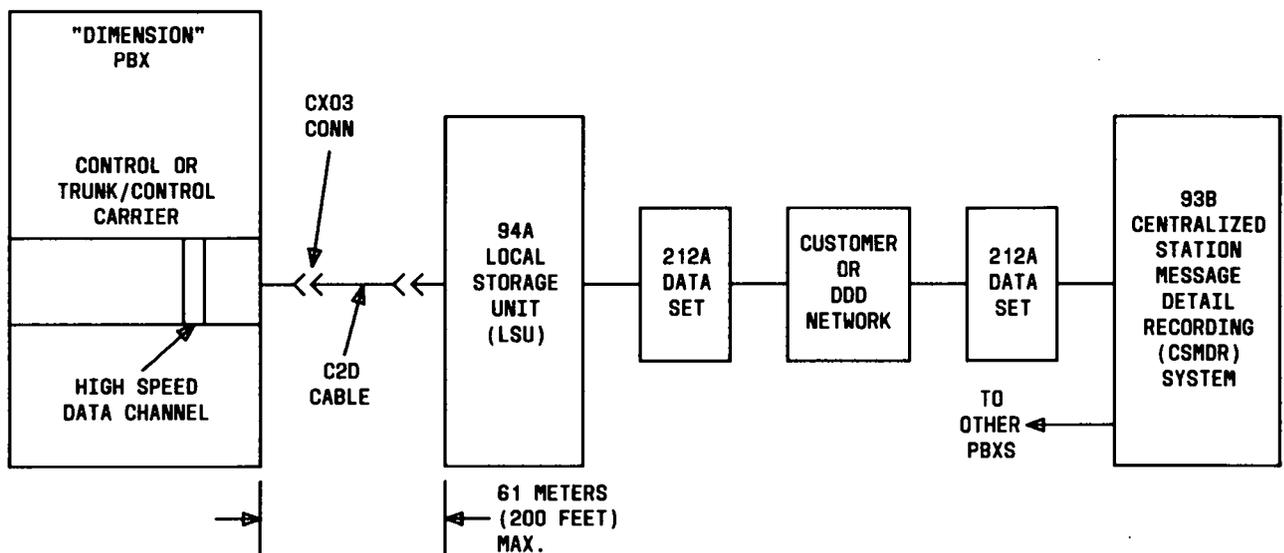

Fig. 42—Centralized SMDR Arrangement Interface to the DIMENSION PBX
**4.126 CSMDR Interface:** The LC570/LC570B SMDR data port also interfaces with a CSMDR system which collects and stores, and/or prints, data from each remote location. Figure 42 is a block diagram of the interface to the PBX via a 212A data set and a 94A local storage unit (LSU). For detailed information on preinstallation and description, refer to Sections 190-402-100/-200 and 190-403-200.